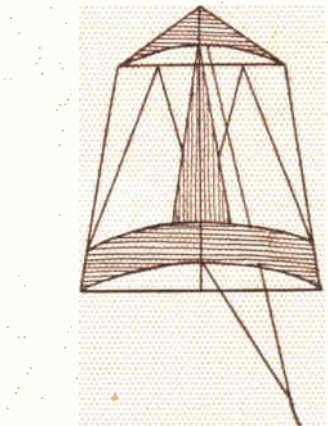

Fig. 3
This is a grand flyer seen in Fig. 3. The main centre rib (A) is a piece of split cane or flexible wood, 31ins. long. Two pliable cross pieces (B, 31ins. long and C, 15 $\frac{1}{2}$ ins. long), are also required. The cross piece (B) is fixed 1 $\frac{1}{2}$ ins. from one end, and (C) is 2 $\frac{1}{2}$ ins. from the other end of (A). Use thin twine to lash them